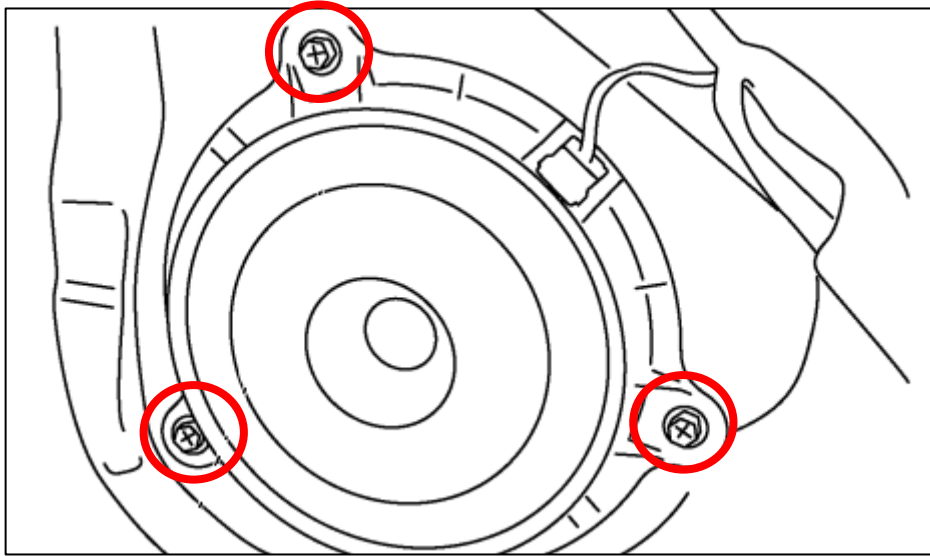

Figure 24
12. Remove the (3) three bolts securing the Speaker to the Door Panel. *Figure 24.*